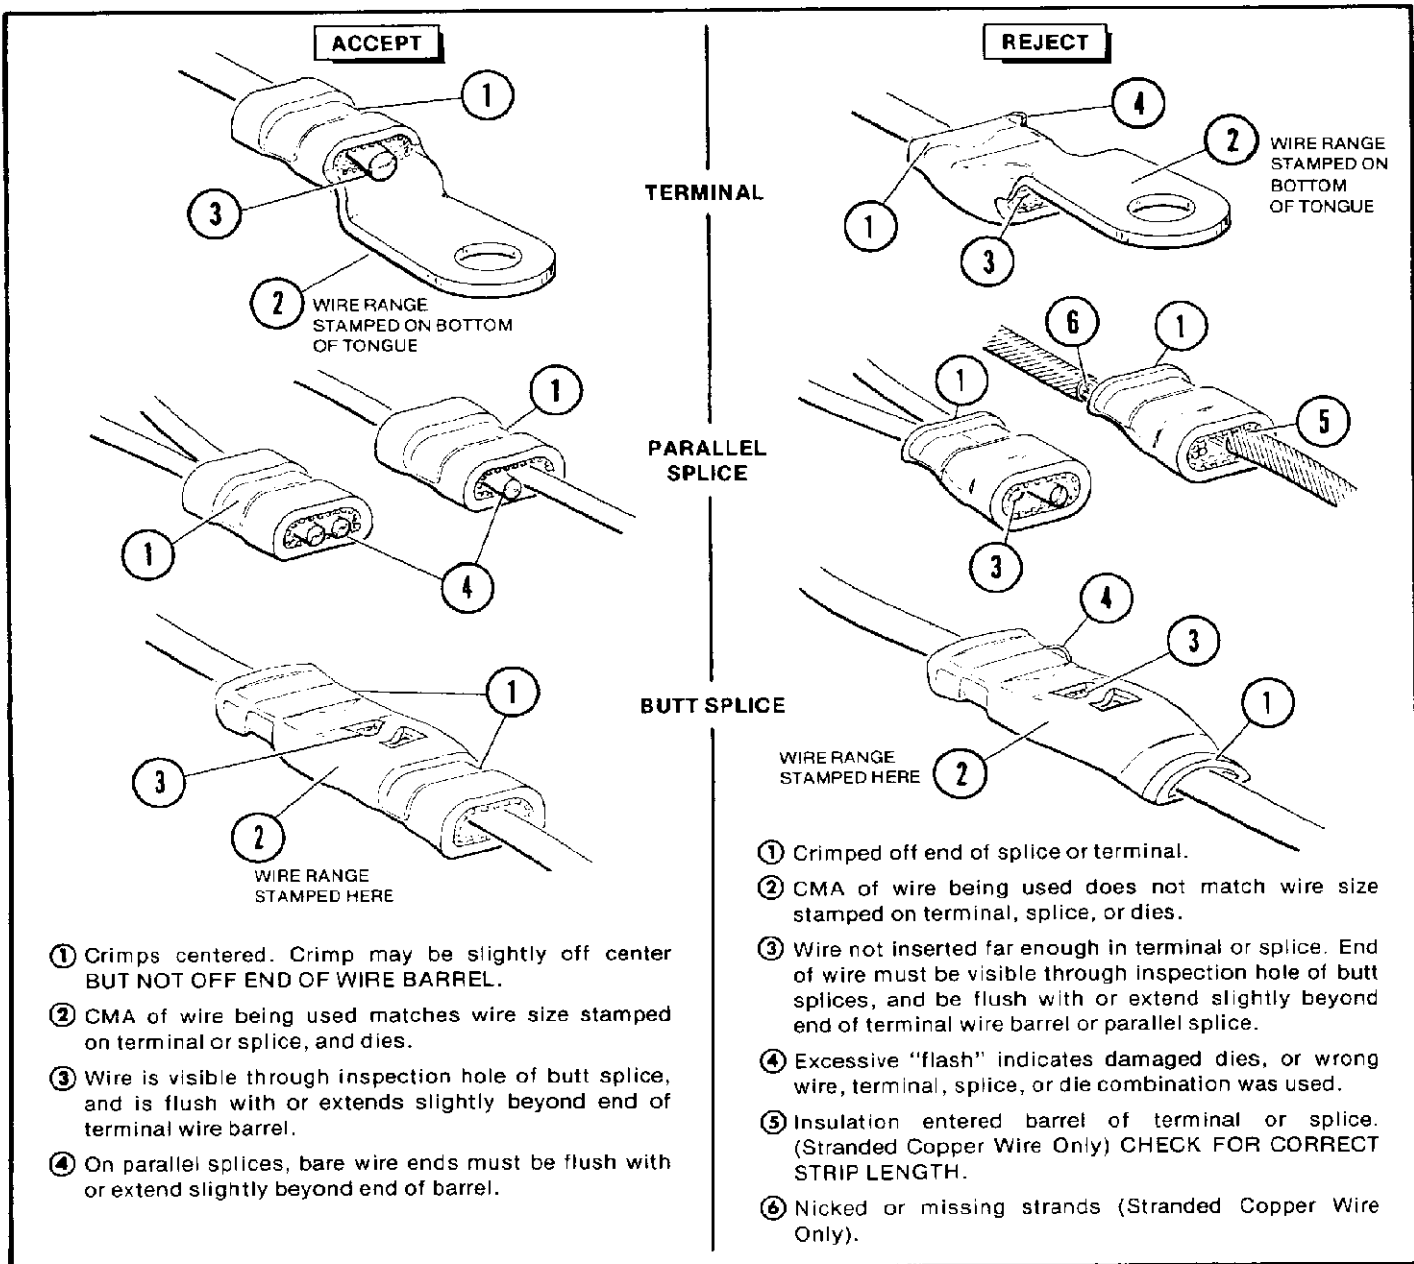

Figure 5
- (f) Refer to paragraph 3 and Figure 5 for crimp inspection.
- (g) Refer to paragraph 3 and Figure 5 for crimp inspection.
- (e) Refer to paragraph 3 and Figure 5 for crimp inspection.
Inspect crimped terminals and splices by checking the features described in Figure 5.